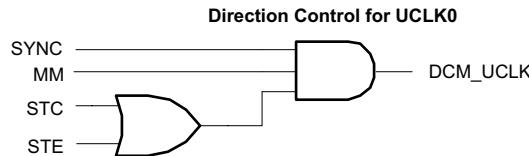

Figure 6-12. Direction Control for UCLK0
(1) Timer_A3
(2) USART0 (also see Figure 6-12)